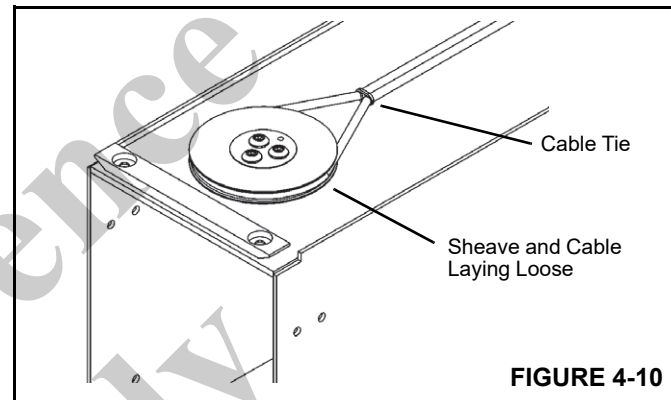

FIGURE 4-10
5. Loop the proportion cable around the cable sheave and place it on the top of the 3rd section. (this assembly is attached to the 2nd section later). Tie the two cables together as shown in Figure 4-10.